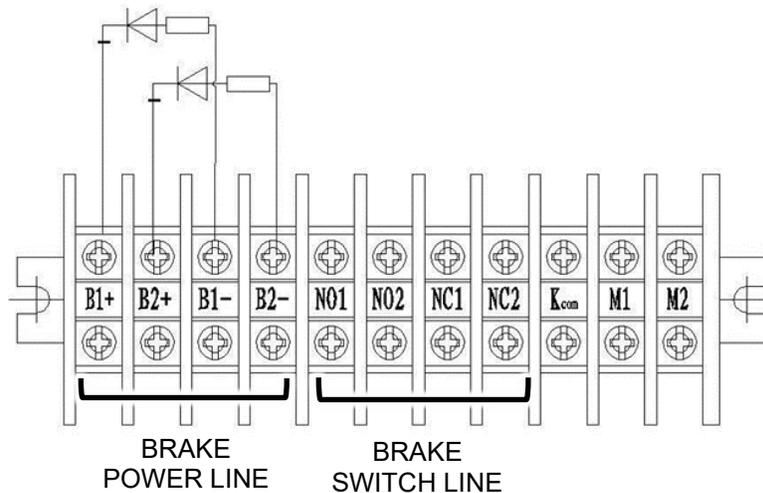

Figure 38
3. On the machine side disconnect the Brake and Brake Switch wires for the brake that is to be worked on Figure 38.